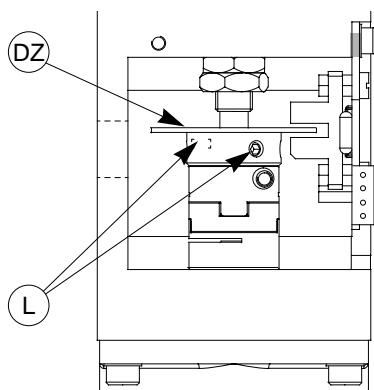
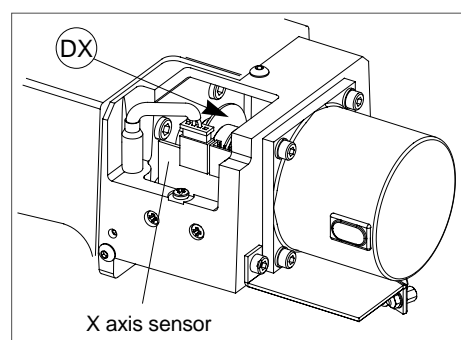

Fig. 23
Fig. 24
- 3) loosen the screws securing the Y and Z axes photocell disks Y (G) (fig. 24) and Z (L) (fig. 23).
- 7) loosen the screws securing the X axis photocell disk (fig. 24).
- turn the X axis disk manually (fig. 24, page 51) until the display description TX goes from OFF to ON. The display goes from:
- turn the Z axis disk manually (fig. 23, page 51) until the display description TZ goes from OFF to ON. The display goes from: